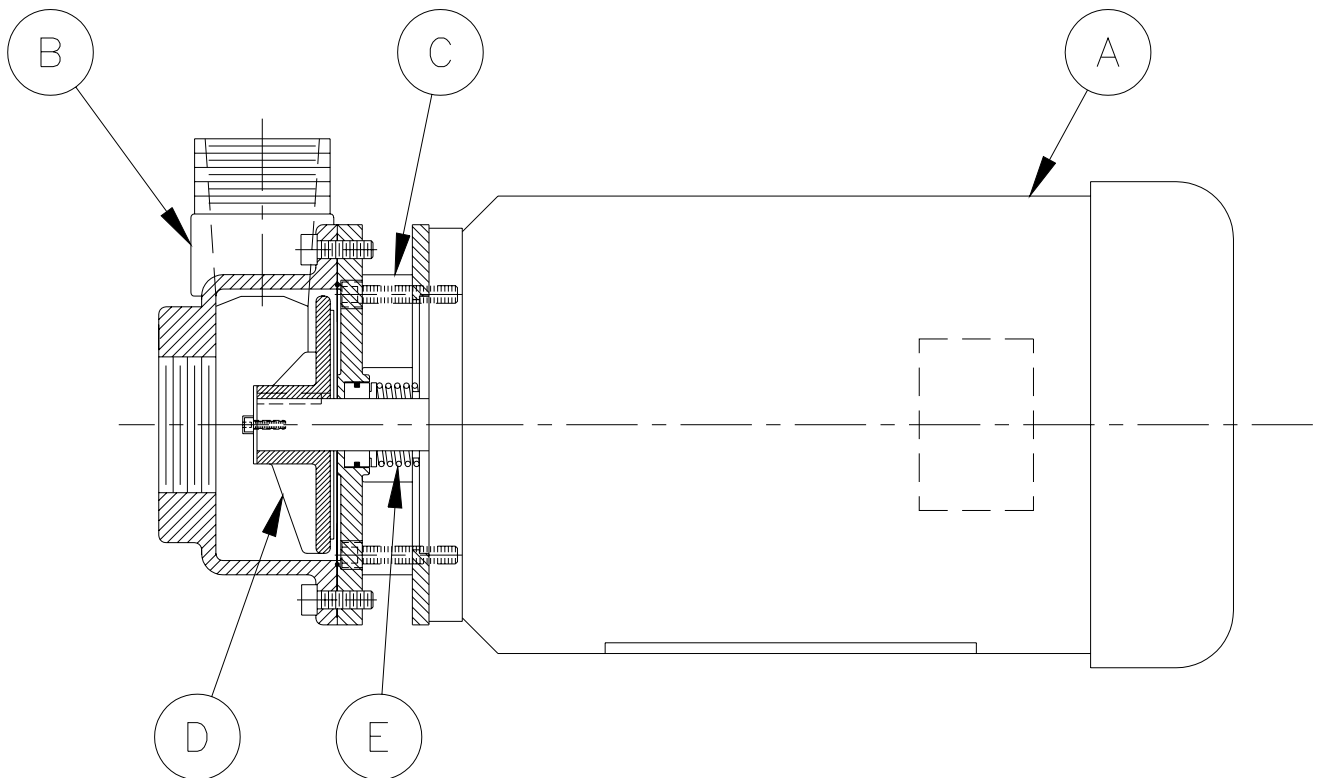

Figure 1. K/W Pump - General Arrangement
GENERAL - The K/W Pump is a direct drive, end suction centrifugal pump. The pump is driven by a C-face electric motor, see Figure 1 (A) which also acts as the pump base. The pump housing (B) mounts on a spacer ring (C) which in turn is mounted to the face of the motor and becomes an integral part of the motor frame. An open type impeller (D) is used to minimize clogging. The pump housing is provided with a mechanical seal (E) to prevent leakage from the pump housing into the motor frame.